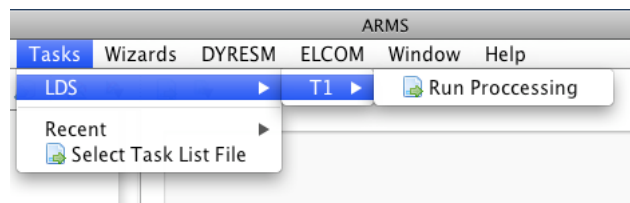

Figure 4.1 Example Task Menu Item for address LDS.T1.Run Processing
**taskMenu** One or more sub-elements for setting up the Task menu item of the GUI. Each sub element has two elements **address** and **taskListFile**. The format of the address string is a series of names separated by dots (.). Each name represents a tree item for the menu (under the main Tasks menu item). So an address of 'LDS.T1.Run Processing' will generate a menu item as shown in Figure 4.1. The location of the task list file is relative to *taskRootDir* given above. For more information of the format of the task list file see Section 6.2.